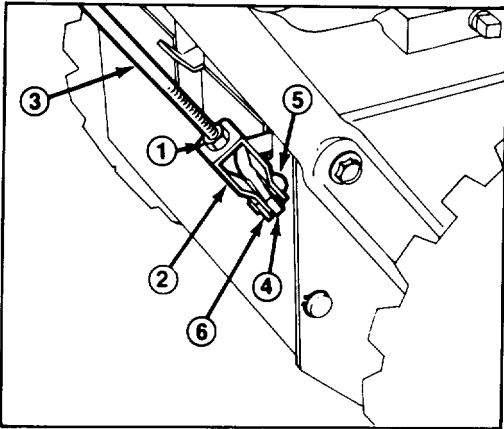

Figure 5
1. Loosen jam nut above clevis on upper control rod (Fig. 5).
2. Align holes in clevis and lower control rod, install with clevis pin (Fig. 5).
5. After adjusted, install clevis pin and secure with cotter pin. Tighten jam nut to secure clevis (Fig. 5).